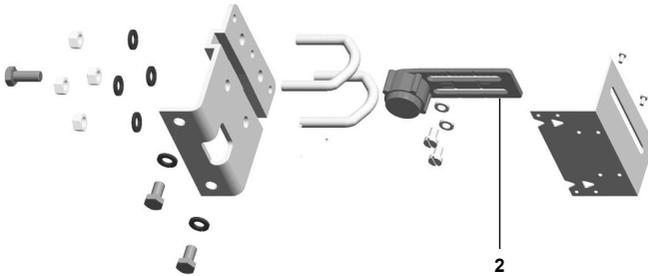
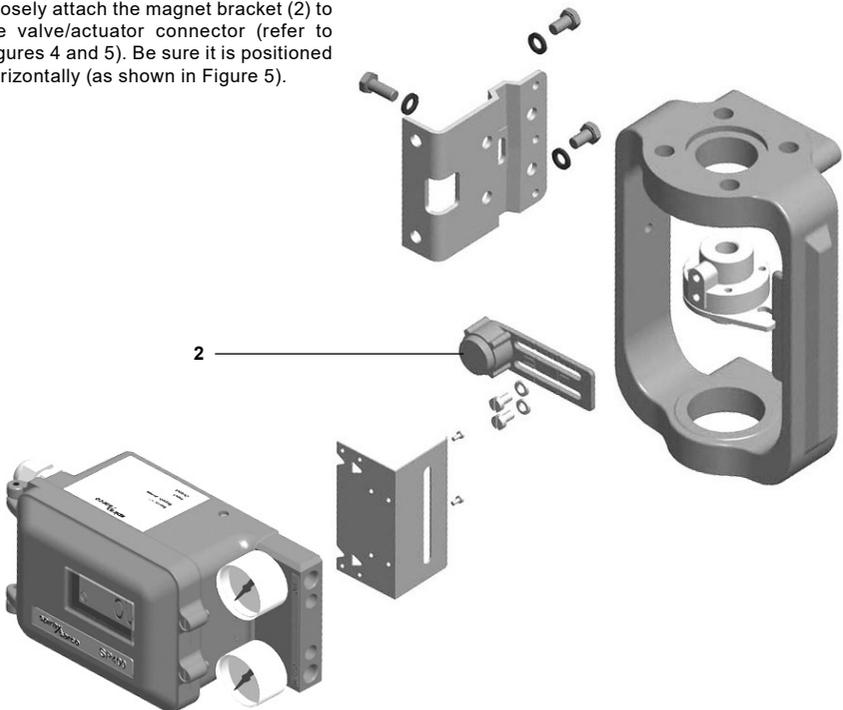

Fig.4 Pillar mounting kit for a linear actuator
Fig. 5 Yoke mounting assembly for a linear actuator
5.2.1 Loosely attach the magnet bracket (2) to the valve/actuator connector (refer to Figures 4 and 5). Be sure it is positioned horizontally (as shown in Figure 5).